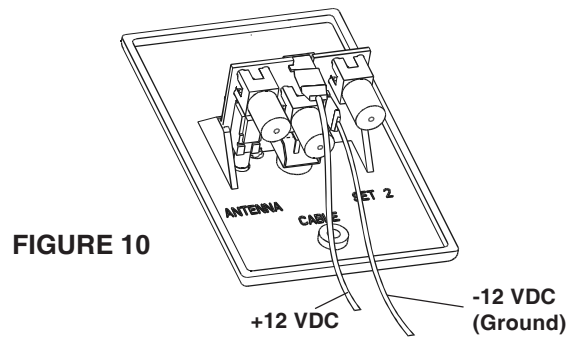
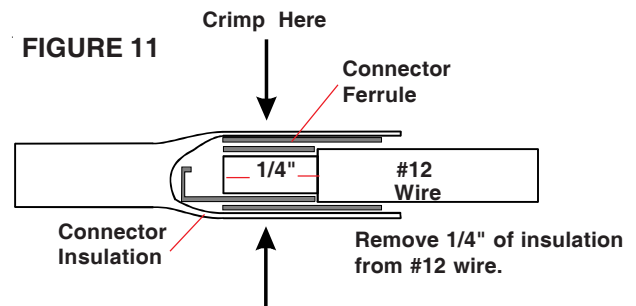

FIGURE 10
FIGURE 11
STEP 12: Make 12 volt connection to wall plate/power supply, Figure 10. Install terminals on wires from +12 VDC source, Figure 11. Crimp terminals with appropriate crimping tool or equivalent, Figure 12. Push wires onto tabs on terminal board as shown in Figure 10. If in doubt as to the polarity of the wires, connect them temporarily to tabs on circuit board and press ON switch on front of wall plate; if light comes on, polarity is correct, Figure 10.